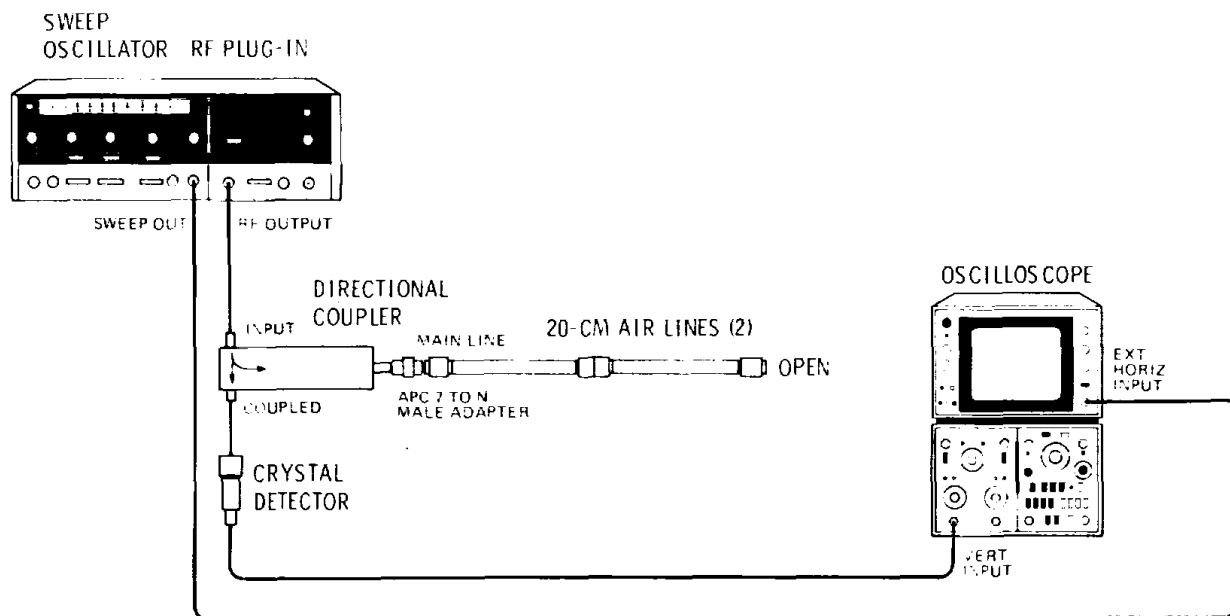

Figure 4-9. Equivalent Source Match Test Setup
a. Connect equipment as shown in Figure 4-9.